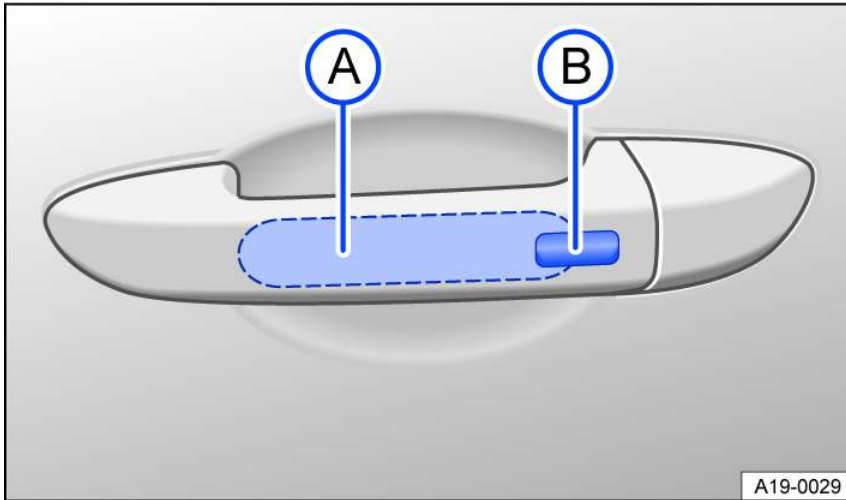

Fig. 44 In door handle: sensors.
- Touch the sensor fig. 44 A on the inside of the driver or passenger door handle.
- Touch the sensor fig. 44 B on the outside of the driver or passenger door handle.
- Then, within 5 seconds of locking the vehicle, touch the sensor on the outside of the door handle once fig. 44 B. Do not grasp the door handle during this process.
- Hold your finger on the driver's or front passenger's door handle sensor fig. 44 B for several seconds until the windows and power sunroof are closed.